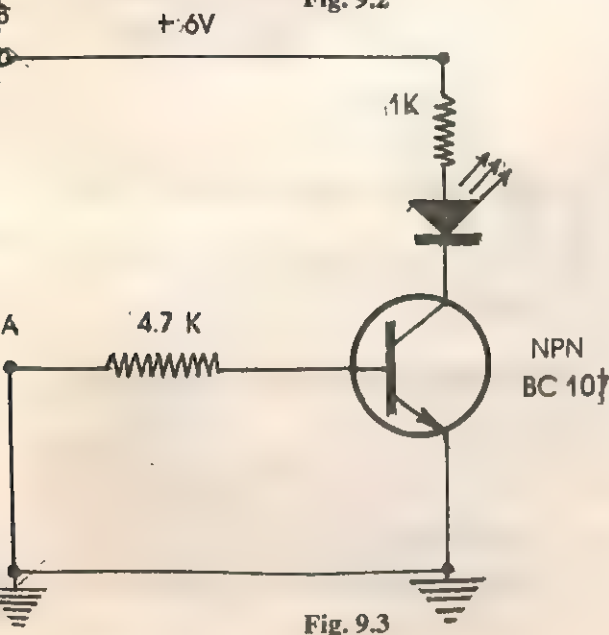

Fig. 9.3
5. Connect through lead point "A" and "C", so that point "A" is earthed and the transistor is cut-off as in Fig. 9.3.